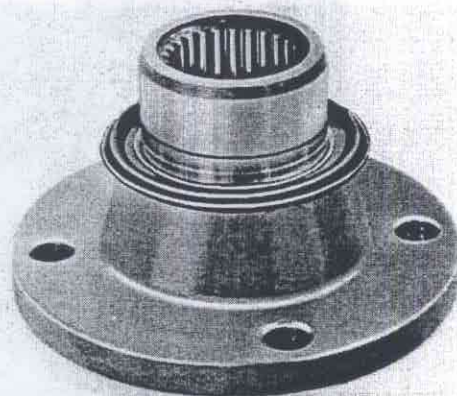

Fig. 43-182. Flange seal
9. Fit a new seal on the flange, see Fig. 43-182, and grease the flange wear surface.